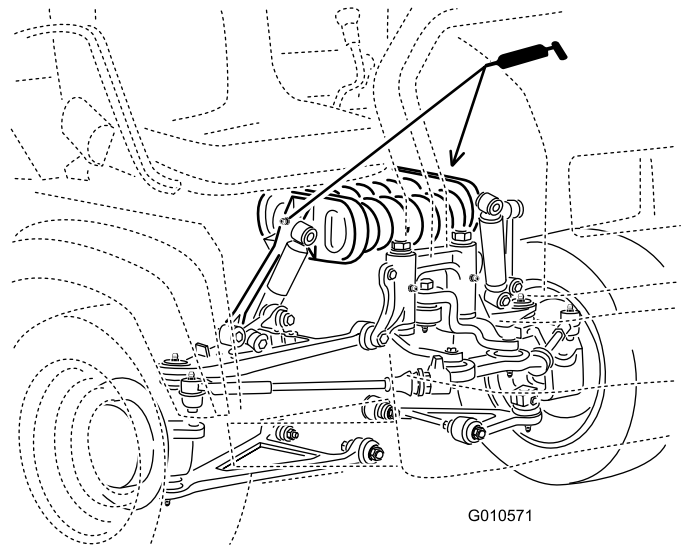

Figure 30
- Spring tower (2) (Figure 30)